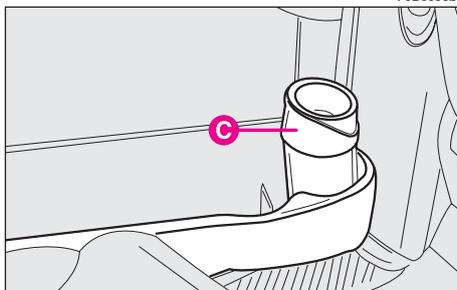
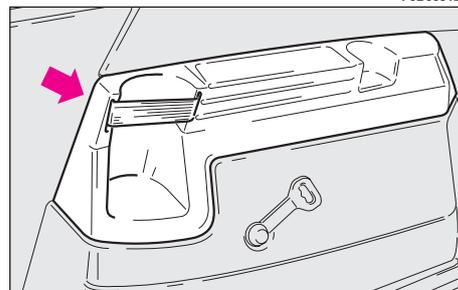

fig. 125
fig. 126
– bottle - glass - can holders on the second fig. 125 and third row side panels fig. 126; bottle compartments can also be used to contain a removable waste container **C**-fig. 125;